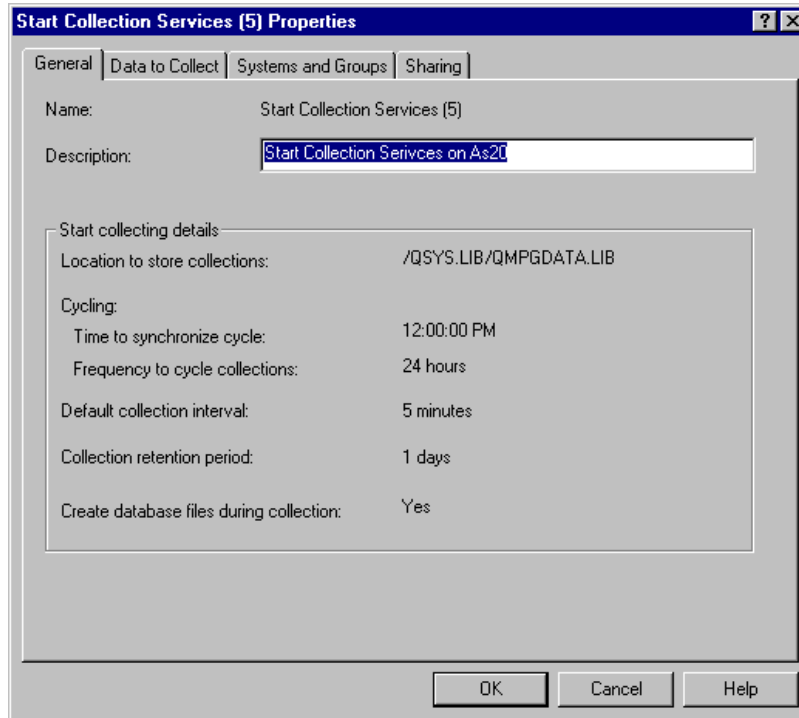

Figure 118. Start Collection Services: Properties window
2. Right-click on the **Start Collection Services** entry, and click on **Properties** to view the window shown in Figure 118 on page 146.